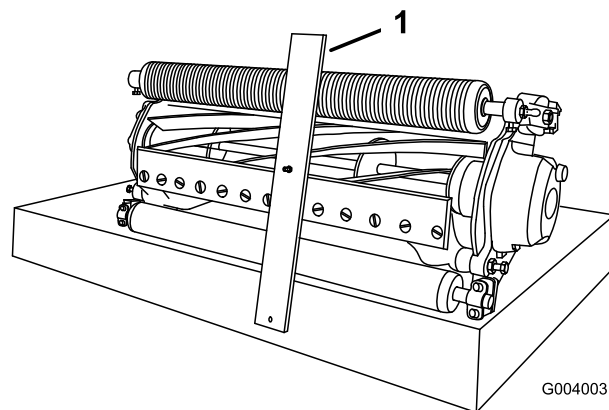

Figure 55
- Hook screw head on cutting edge of bedknife and rest rear end of bar on rear roller (Figure 55).